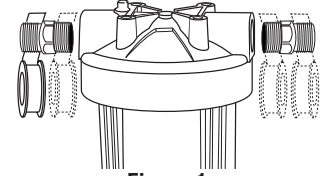

Figure 1
3. Wrap PTFE tape (approx. 12") around the 1" male compression adaptors (to the right, see Figure 1) and screw firmly to filter head. **Do not use pipe solvent (dope) as some types may cause damage to plastic fittings. Do not overtighten as it may cause damage to filter head. Damage to unit may result in property damage due to water leakage.**